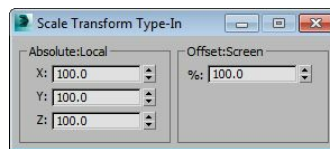

Figure 10-83 The *Scale Transform Type-In* dialog box
3. Make sure that *Circle001* is selected in the Top viewport. Right-click on the **Select and Uniform Scale** tool from the **Main Toolbar**; the **Scale Transform Type-In** dialog box is displayed, as shown in Figure 10-83. Now, in the **Absolute:Local** area, set the value **111.0** in the **X** spinner; *Circle001* is scaled along the X-axis, as shown in Figure 10-84. Now, close this dialog box.